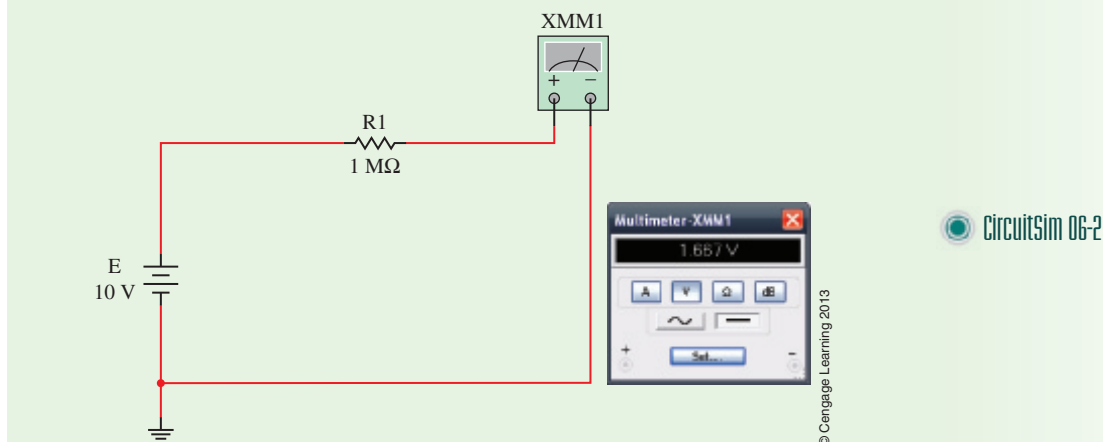

FIGURE 6-40
- Run the simulation by clicking on the power switch. The resulting display is shown in Figure 6-40.